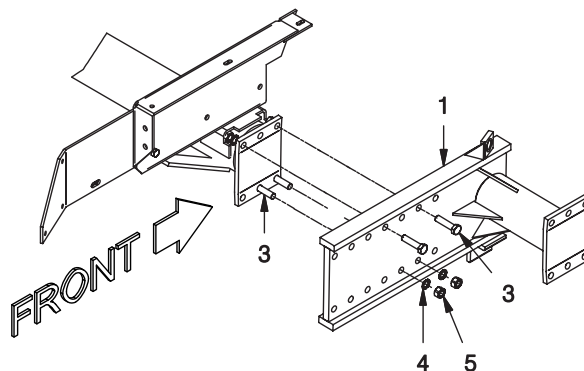
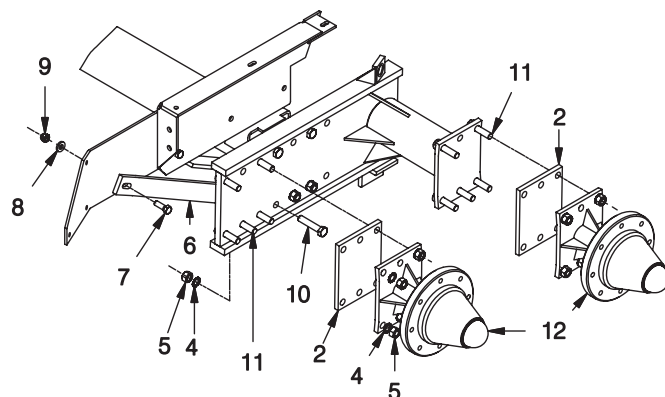

Figure 1 - Place Spacer and Tandem Wheel Plate
Figure 2 - Place Spacers, Brace and Hubs
A. Place (2) Y18C-1032 Bolts through the axle and (2) through 901626 Tandem Plate as shown in Figure 1. Place (1) 901626 Tandem Plate as shown in Figure 1. Place the rest of the bolts, star washers and nuts on so the tandem plate is secure.
B. Place (2) F000007636 Spacer Plates on the tandem plate as shown in Figure 2. Place (2) F000008003 Hub and Spindle assemblies as shown in Figure 2. Place all bolts, star washers and nuts so the hub and spindle are secure. Place (1) F000007705 RH Brace on the axle as shown in Figure 1. Torque all nuts and bolts as per torque chart on page 1.